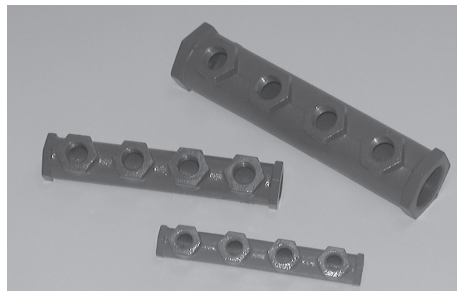

Figure 2-2
- A. **Manifolds:** Allows parallel installations with “home runs” to each appliance. 1/2 inch female NPT outlets and 3/4 inch and 1/2 inch female NPT inlets. Large size manifolds are also available for use with commercial size TracPipeCounterStrike CSST (Figure 2-2).